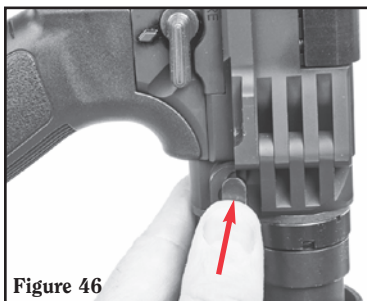

Figure 46
7. **To remove the bolt:** Close the bolt and push the folding stock release button (see Figure 46).